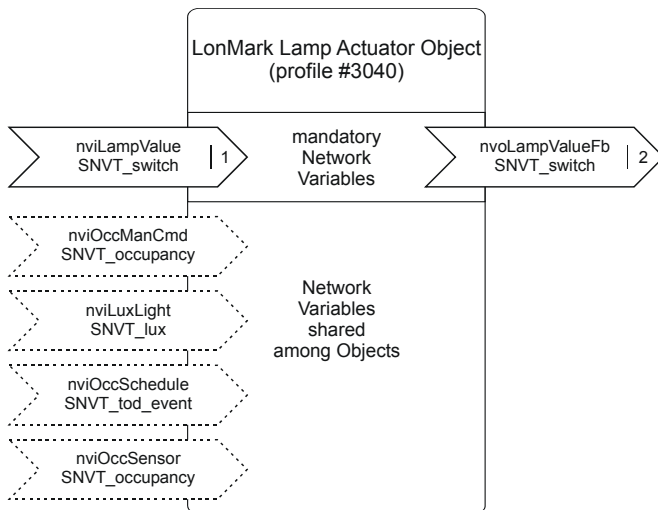

Fig. 8. Lamp Actuator Object
- three lamp actuator objects (#3040) (see Fig. 8)